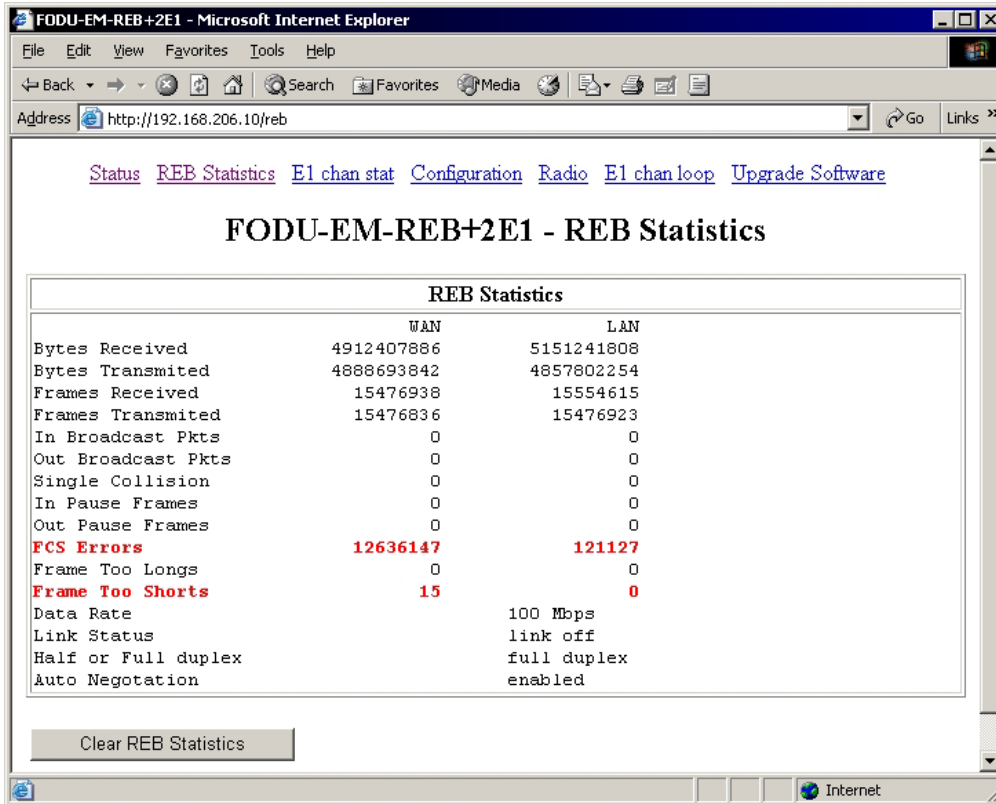

Figure 5
- Inspect Ethernet bridge counters (see Figure 5)